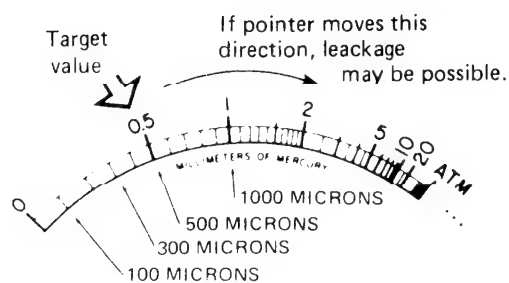

Fig.25
- 7) Keep this condition at least 5 minutes and observe the vacuum gauge for change. (Fig. 25)